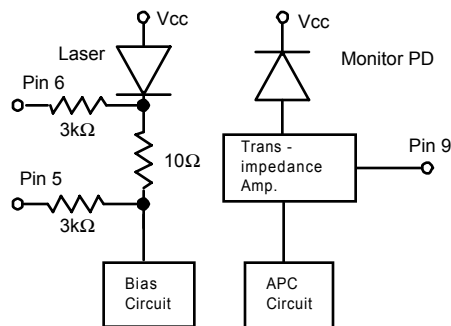
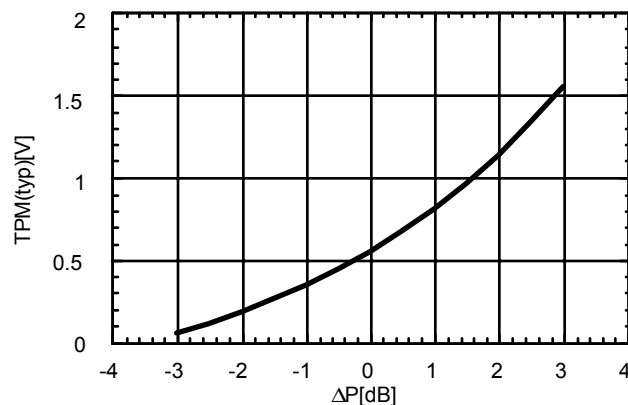

Figure 3. Monitor Pin
Figure 4. Output Power Change versus the Optical Output Monitor Voltage (typ.)
6. Vcc=+3.3V 7. Tc=25°C 8. 20~80% 9. The transmitter is enabled as default state and requires an external voltage only to disable. (Refer to Section 8. Relation between Disable Input Voltage and Optical Output Power) 10. The Laser Bias Monitor Current are calculated as ratios of the corresponding voltages to their current-sensing resistor, 10Ω (See Figure 3). Upon Measuring or utilizing these values, please use a device whose Impedance is high enough (>1MΩ) compared with those resistors. 11. The relationship between the Output Power Change and the Transmitter Optical Power Monitor Voltage is shown in Figure 4.